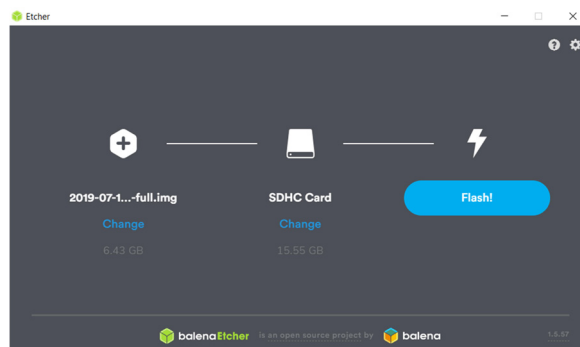

Figure 1.3 Click Flash to flash the disk image
- Click **Flash** (see Figure 1.3). This may take several minutes. Wait until it is finished. The program will then validate and unmount the micro SD card. You can remove your micro SD card after it is unmounted.